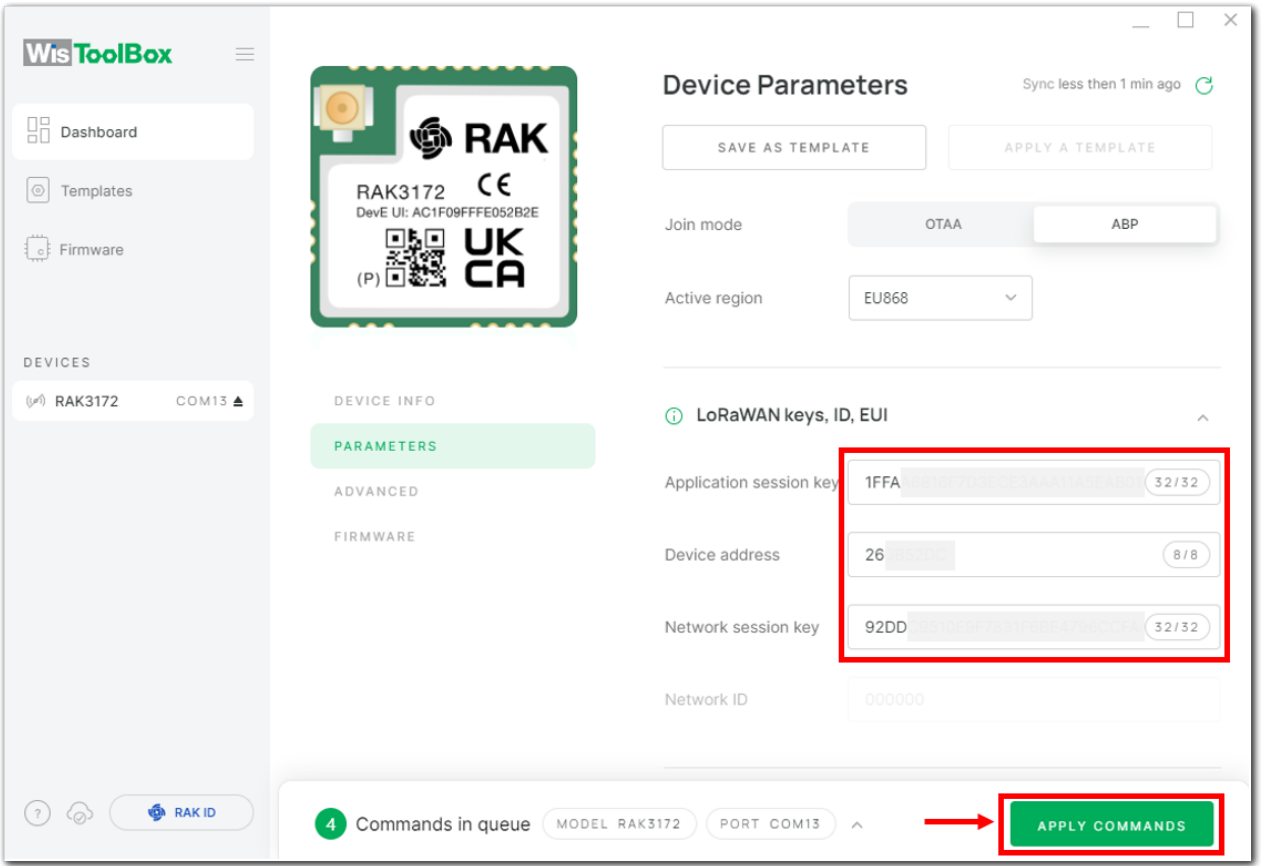

Figure 150: Used credentials from your console in WisToolBox dashboard
8. Then go back to console where your RAK3172 End device is created previously. Then copy all the credentials from there. Those will be the ones to be used also in the WisToolBox dashboard. Once encoded into the dashboard, click **APPLY COMMANDS** to update your device as shown in **Figure 150**.